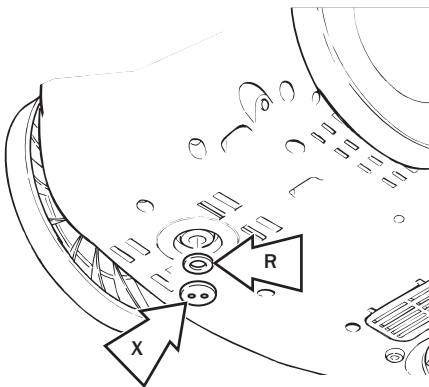

fig. 23
- Place a container under the machine, then remove plug X by turning it counter-clockwise using round nose pliers or the key provided (fig. 23).